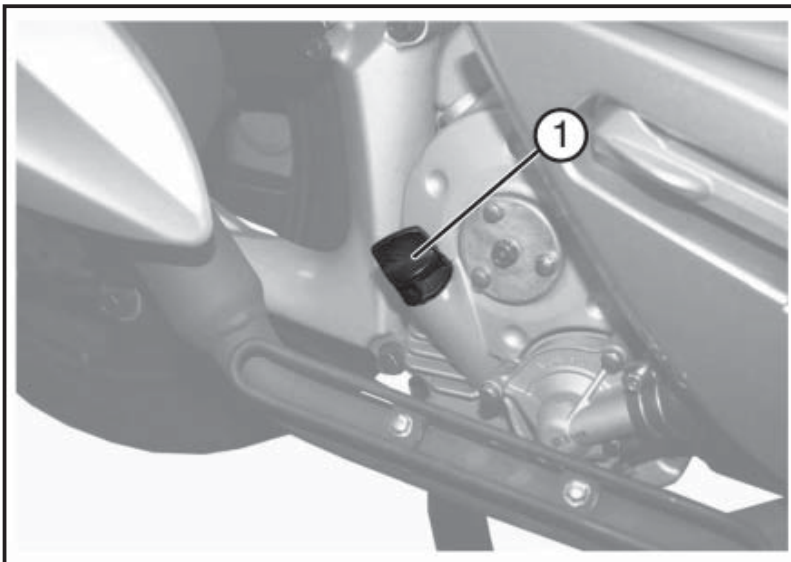

Fig. 02
- Check that the oil level is between the «**MIN**» and «**MAX**» marks (Fig. 02).